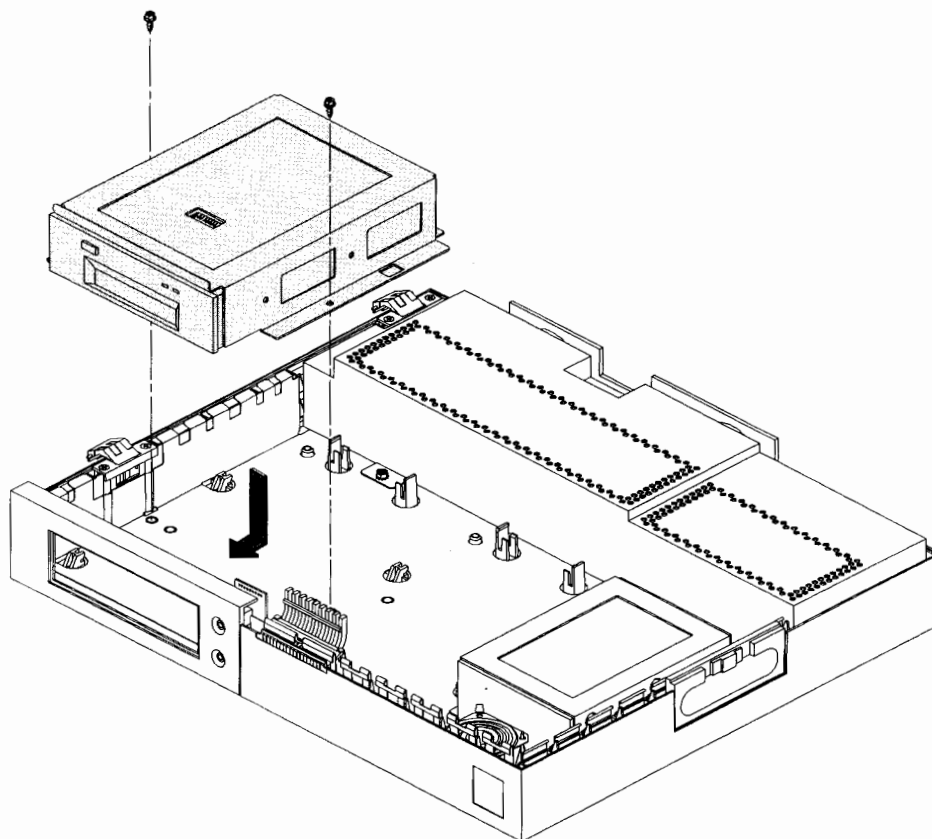

Figure B-28. Mounting the DDS-Format Tape Assembly
8. Place the DDS-format tape drive assembly into the system unit so that the mounting posts line up with the cutouts in the tape drive's mounting bracket. Slide the tape drive assembly forward. Secure the tape drive assembly with the two mounting screws that came in the kit by using a #2 Phillips screwdriver, as shown in Figure B-28.